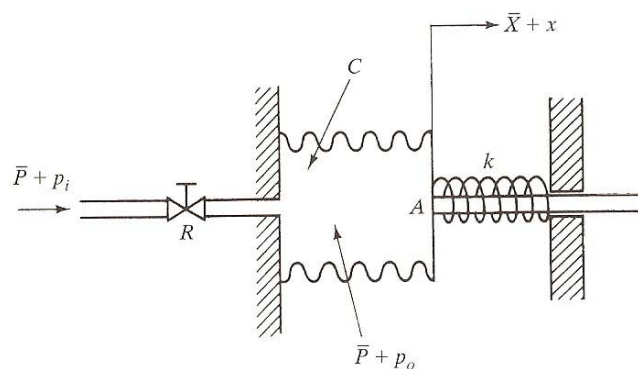

Fig. 1
- For the pneumatic system shown in Figure 1, assume that the steady-state values of the air pressure and the displacement of the bellows are \bar{P} and \bar{X} , respectively. Assume also that the input pressure is changed from \bar{P} to $\bar{P} + p_i$, where p_i is small. This change will cause the displacement of the bellows to change a small amount x . Assuming that the capacitance of the bellows is C and the resistance of the valve is R , obtain the transfer function relation x and p_i